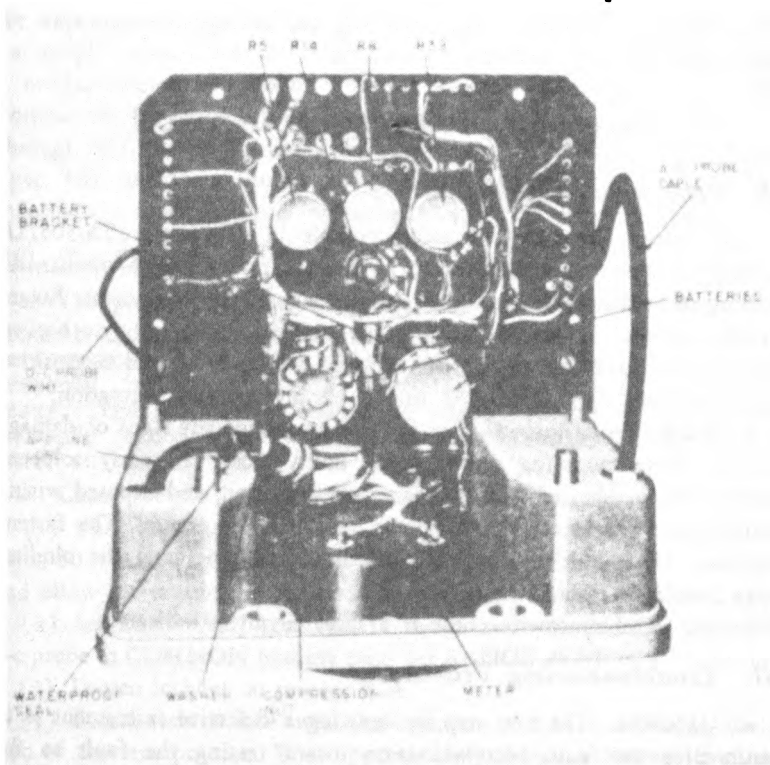

Figure 15. Electronic Multimeter TS-505/U, top view showing under side of terminal board.
b. In the event that the terminal board is broken, capacitors C8 and C9, resistors R5, R8, R14, and R39, and the battery holders should be salvaged if they are in good condition (fig. 15). In general, the fixed resistors mounted on the board are not worth salvaging because the leads would be too short. However, salvage the precision resistors R4 and R24 through R38 even though the leads are short so that some precision resistors are readily available for replacement.
e. The front and rear covers may be placed in stock if they are in good condition. Note that the cables in the unit have enough slack (fig. 15) so that they may be cut close to the soldered end and re-used.